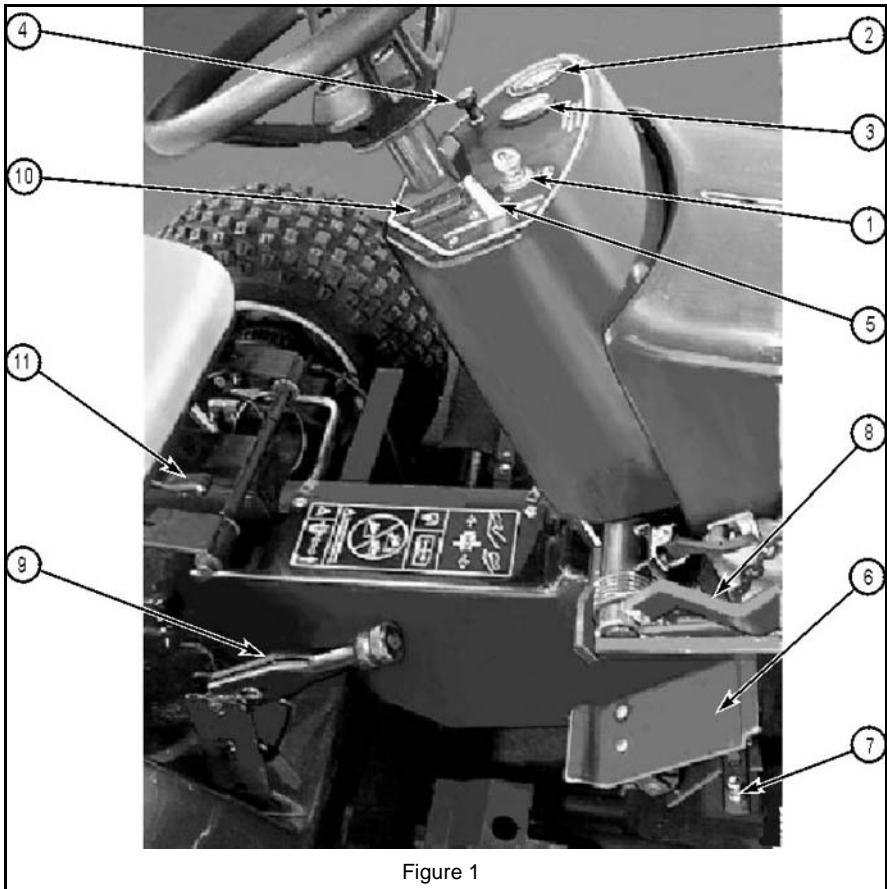

Figure 1
Insert key in switch (1, Figure 1) and turn clockwise as far as it will go to start engine, then release. The reel control switch must be in the off position and the traction control pedal in the neutral position before starting engine.
The hour meter (2, Figure 1) indicates the number of hours the tractor has been operated. It can be used to keep track of maintenance intervals and the amount of time required to perform various tasks. The hour meter operates whenever the ignition key is in the "on" position.
The amp meter (3, Figure 1) indicates the condition of the charging circuit. It should indicate a positive charge during normal mowing. If the amp meter indicates a negative reading, refer to the Briggs and Stratton engine manual.
When starting a cold engine, pull the choke control (4, Figure 1) out to close the choke plate and allow a richer fuel mixture to enter the engine. After the engine starts, push the choke control about halfway in to keep the choke plate partially closed. Push the choke control all the way in to open the choke plate for normal operation after the engine is properly warmed. A warm engine usually requires less choke to start.
Push throttle lever (5, Figure 1) forward to increase engine speed; pull back to decrease the engine speed.
The traction pedal (6, Figure 1) operates the forward and reverse direction and speed of the tractor.
The speed control (7, Figure 1) is meant to ease operator fatigue by holding the forward speed to a constant that is best suited for the present mowing conditions.
Positioning the wing mower lift lever (8, Figure 1) will lower the side mowing units to the ground.
A convenient parking brake (9, Figure 1) is located just below the right side of the operator's seat.
By toggling the reel drive control switch **ON** (10, Figure 1), an electric clutch is activated which engages power to the reels.
The position of the seat is adjusted forward or backward by actuating the seat lever (11, Figure 1).
- Operate at speeds which allow you to have complete control of the tractor and allow you to stop the tractor or maneuver safely in case of an emergency. It is recommended that you adjust the Speed Control (7, Figure 1) to maintain a constant pedal position/speed and reduce the operator fatigue.
- Release parking brake (9, Figure 1).
1. Stop tractor by releasing the traction pedal (8, Figure 1), then slowly lower the mower units.